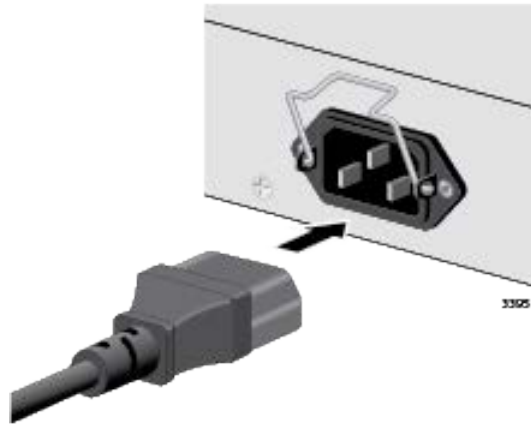

Figure 37. Connecting the AC Power Cord
2. Connect the AC power cord to the AC power connector on the rear panel. Refer to Figure 37.